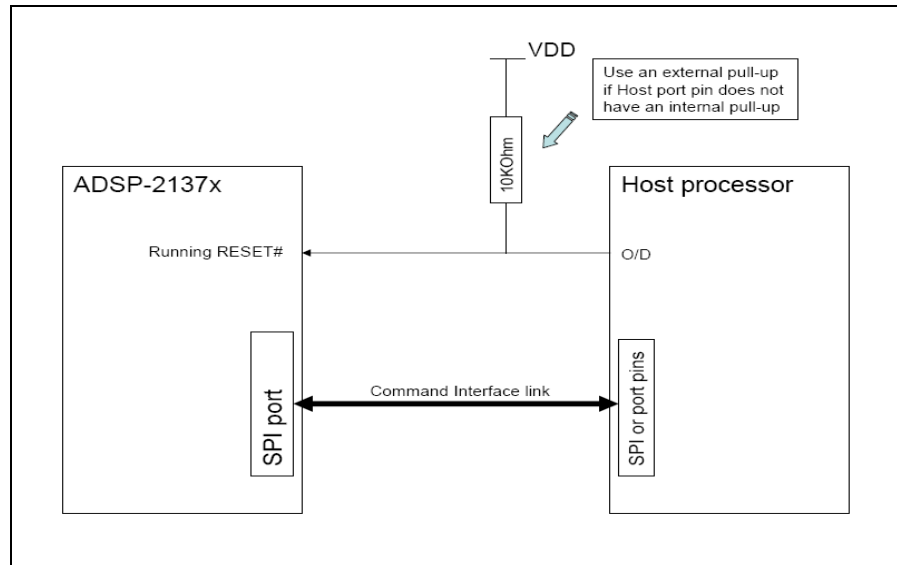

Figure 1. Typical system block diagram showing running reset scheme
- Another example is RSTOUT/CLKOUT signal multiplexed with running reset functionality on ADSP-2137x SHARC processors (see Figure 1). At and after power on /RESET, this signal behaves as an RSTOUT signal. Execute software to configure this signal as an input and running reset signal. RSTOUT/CLKOUT signal on ADSP-2137x processors should be driven by the OD (open drain) output of the host when used to achieve running reset functionality. During and after power up, this signal is configured to be an output until the software configures this as an input and running reset signal. Connecting this to an active drain output of the host may cause contention and may damage the drivers.